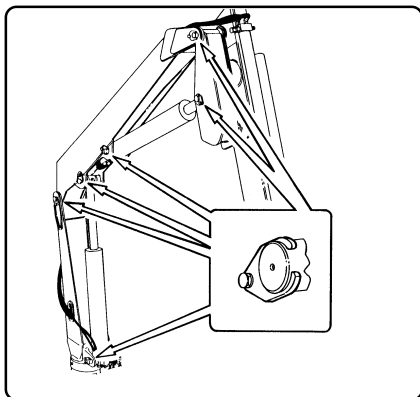

fig. 8.5.8
8.5.11 - Tightness of the pin locks (fig. 8.5.8)